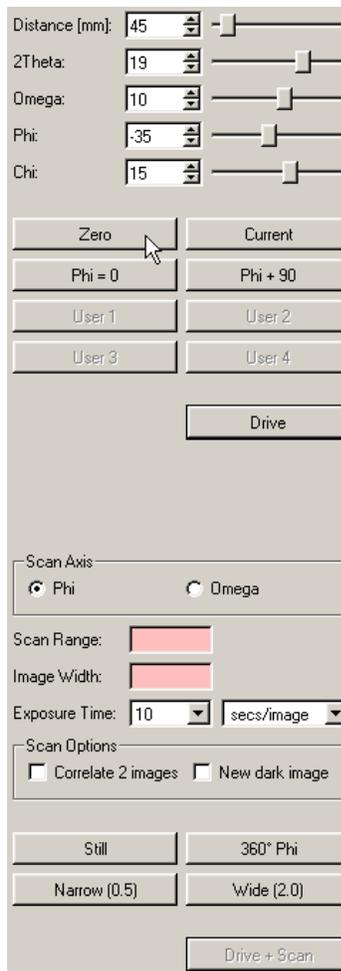

Figure 5.32 – Simple Scans menu
1. Under **Setup** in APEX2Server's Task Bar, click **Simple Scans**. The menu shown in Figure 5.32 opens.
The buttons and boxes at the bottom set up scans. In Figure 5.32, the **Drive + Scan** button is grey and therefore inactive because no scan has been requested.